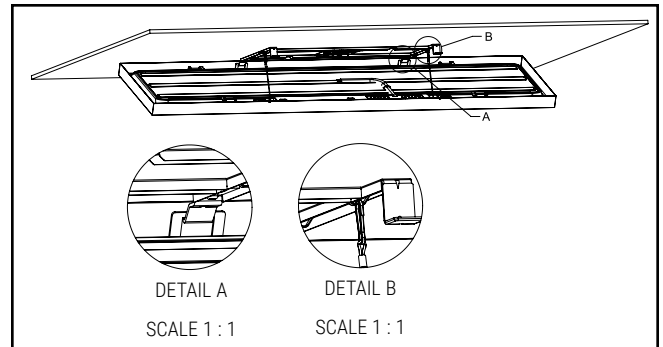

Figure 3.
- Hang fixture to surface mount bracket. Click clip onto hook (Fig. 3 Detail A). Attach safety cable onto bracket loop (Fig. 3 Detail B).